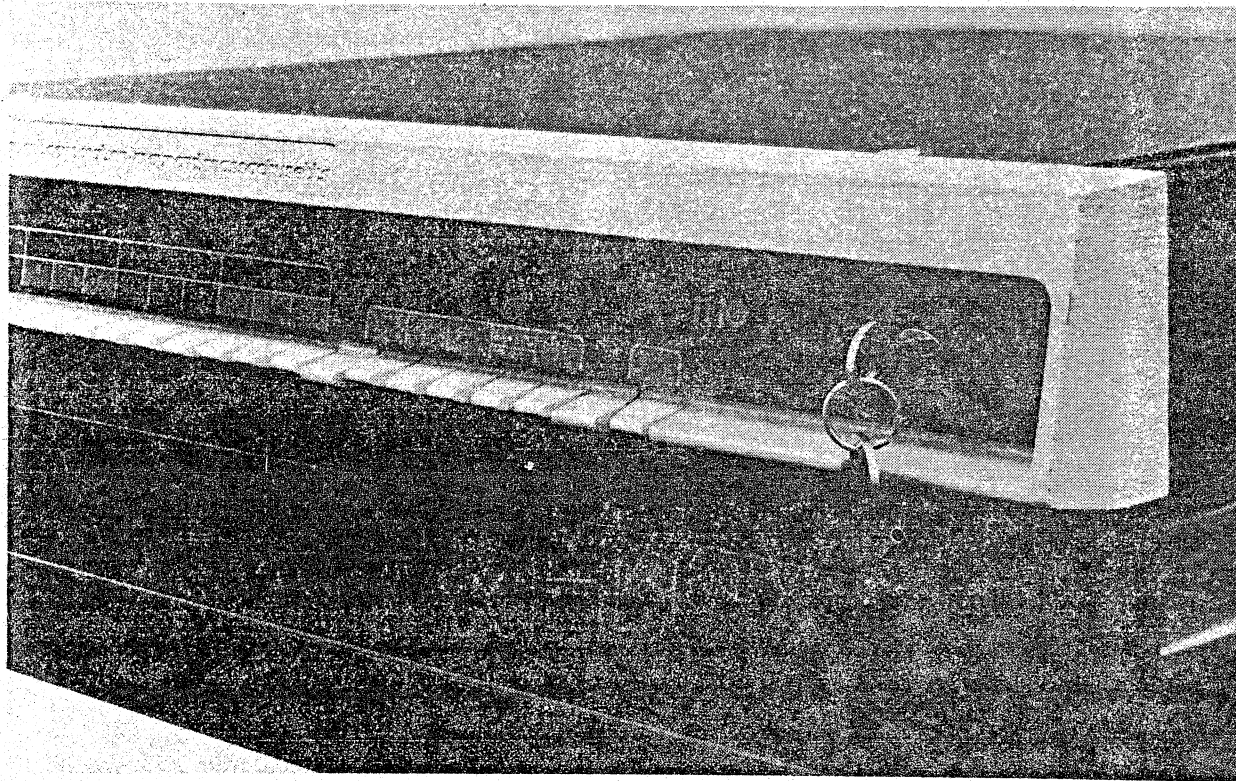

Figure 2-3
3. There are a number of switches on the front of the computer (see Figure 2-3). Make sure that the power key is on and not in LOCK position. Press the HALT switch downward and then upward into the ENABLE position. (This cancels previous programming action and prepares the console for further work).